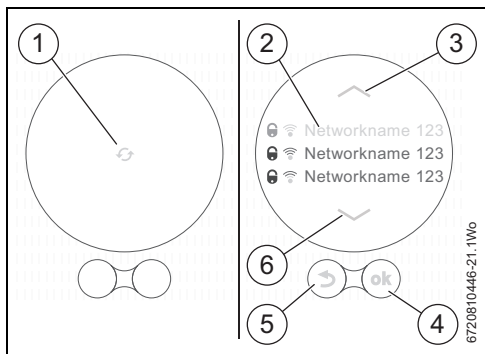

Fig. 9 Selecting Wi-Fi network
- Once connected to the boiler, the Bosch Control will automatically look for Wi-Fi networks [1] (→ fig. 9).